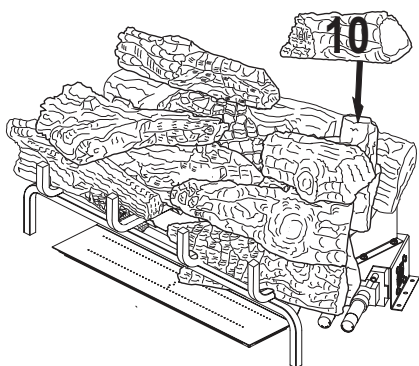

Figure 53 - Installing Log # 10
- Place the right rear top log (#10) on top of the right rear chunk log (#7) as shown in Figure 53, page 25. Match the rectangular peg on the top of the right rear chunk log (#7) with the rectangular hole on the bottom of the right rear top log (#10).